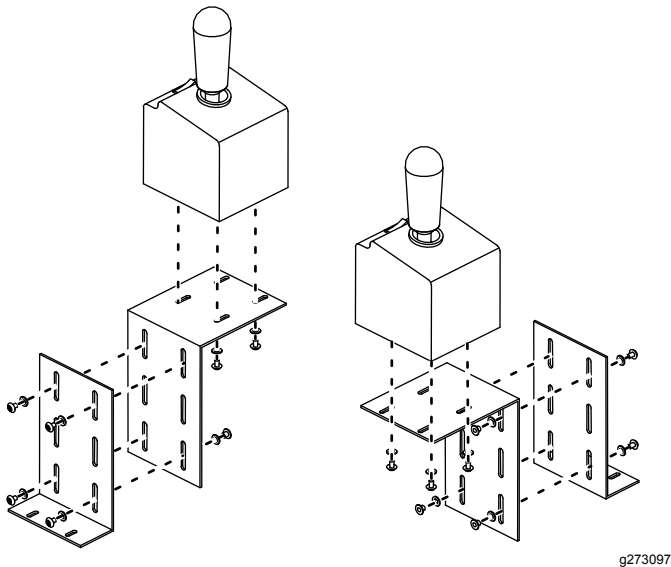

Figure 25
- Determine the best location and configuration for your controller mounting-bracket; refer to Figure 25 for possible configurations.
- Secure the mounting brackets to the vehicle and joystick controller using 8 to 10 bolts (#8), washers (#10), and nuts (#8) as shown in Figure 25.